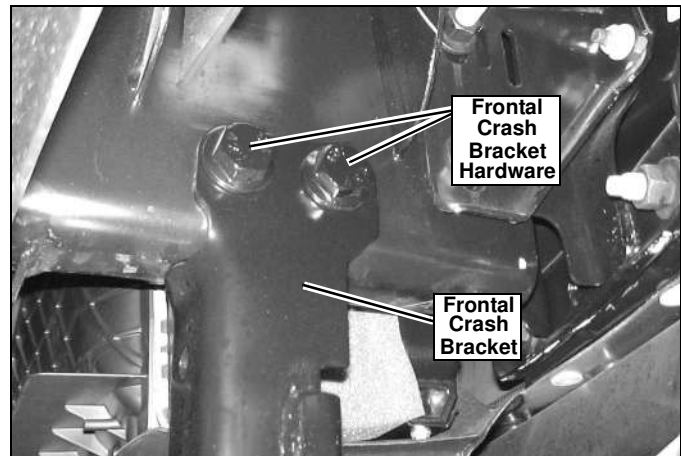

Figure 1
2. Remove hardware and Frontal Crash Bracket from each side of truck. (See Figure 1.) Keep brackets and hardware for installation on truck if subframe is removed at a later date.